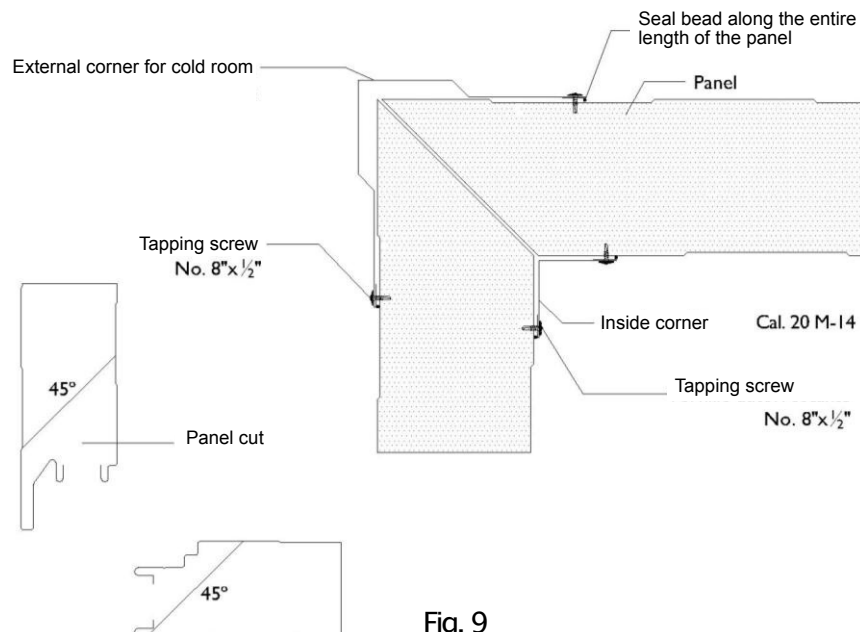

Fig. 9
4.3.12 For the union of the corners it is very important to take into account that special cuts for the elimination of the aforementioned thermal bridges between the interior and the Exterior. (Fig. 9)